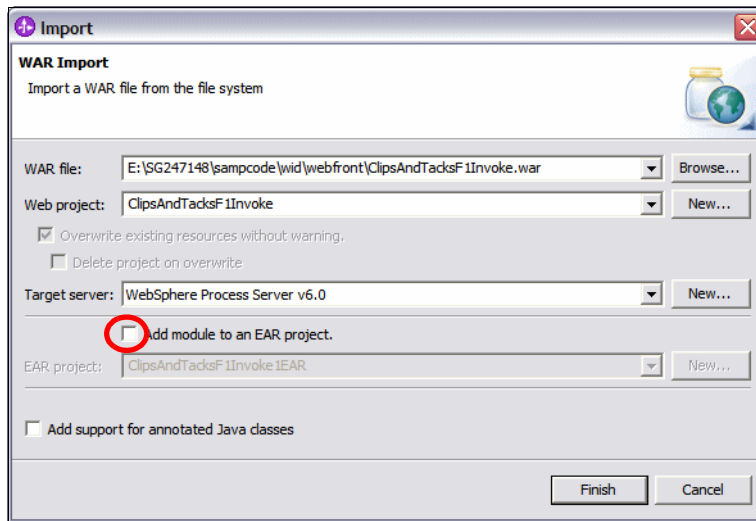

Figure 10-46 Import Web front-end WAR file
- ▶ Click *Finish* (Figure 10-46).